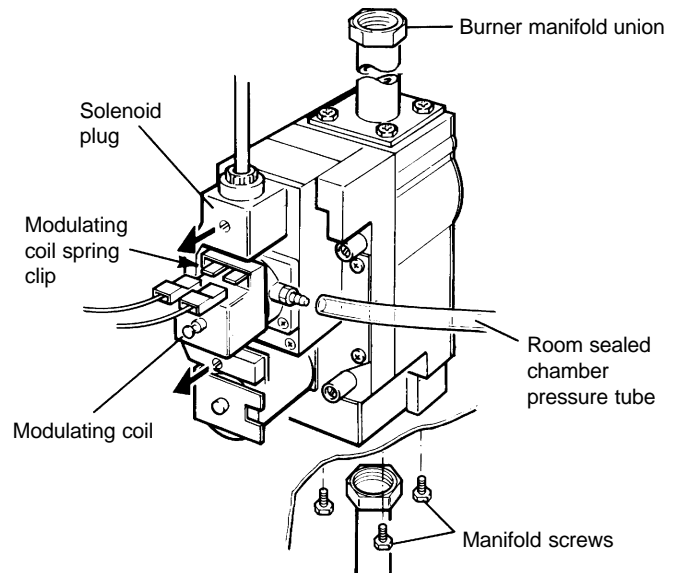

Fig. 25
8.13 GAS VALVE (Alpha 240XE only) - Fig. 25
3. Loosen the two screws (see Fig. 25) securing the solenoid plug and disconnect the plug.